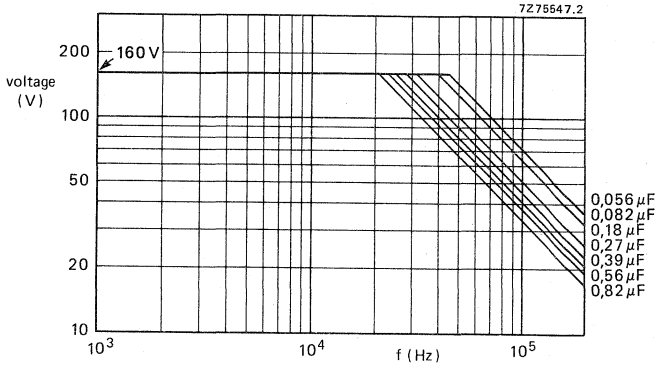

Fig. 3 Maximum a.c. voltage (r.m.s. value) as a function of frequency at $T_{amb} \leq 45 \text{ }^\circ\text{C}$.
* At $T_{\text{amb}} \leq 45 \text{ }^\circ\text{C}$ the maximum permissible sinusoidal voltage can be found in Fig. 3.